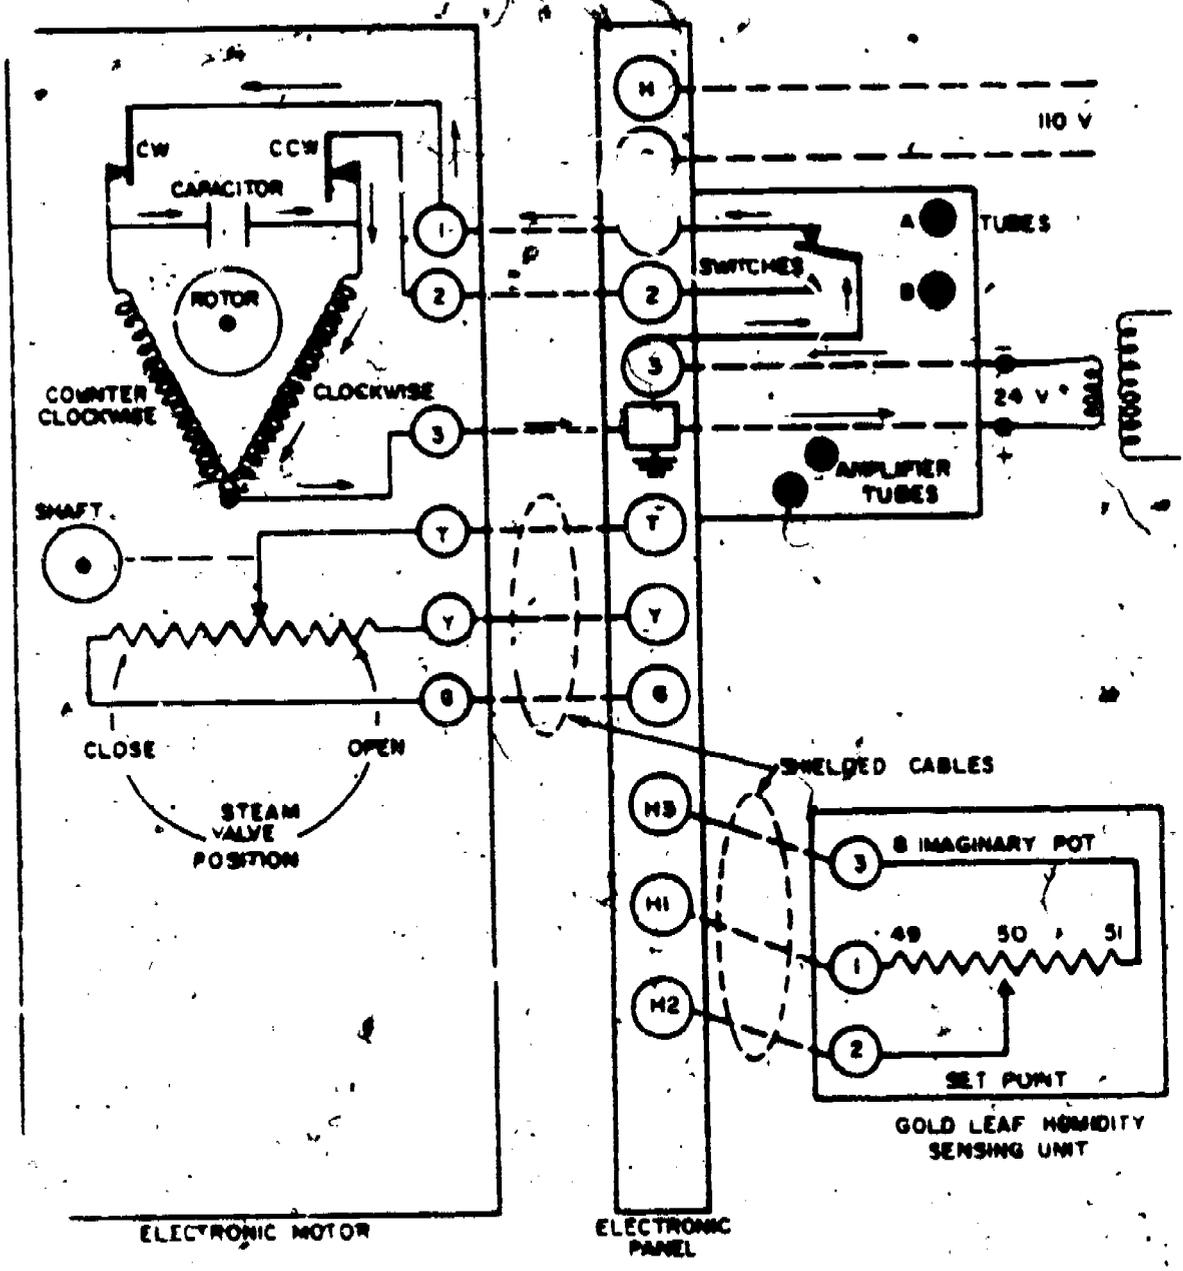

Figure 8. Electronic Humidity Control with Simplified Wiring Diagram
- a. Wire all projects as illustrated in the project diagram, figure 8.
3. Examine the trainer taking note of its circuit diagram. Identify the following (on trainer and diagram, figure 8).